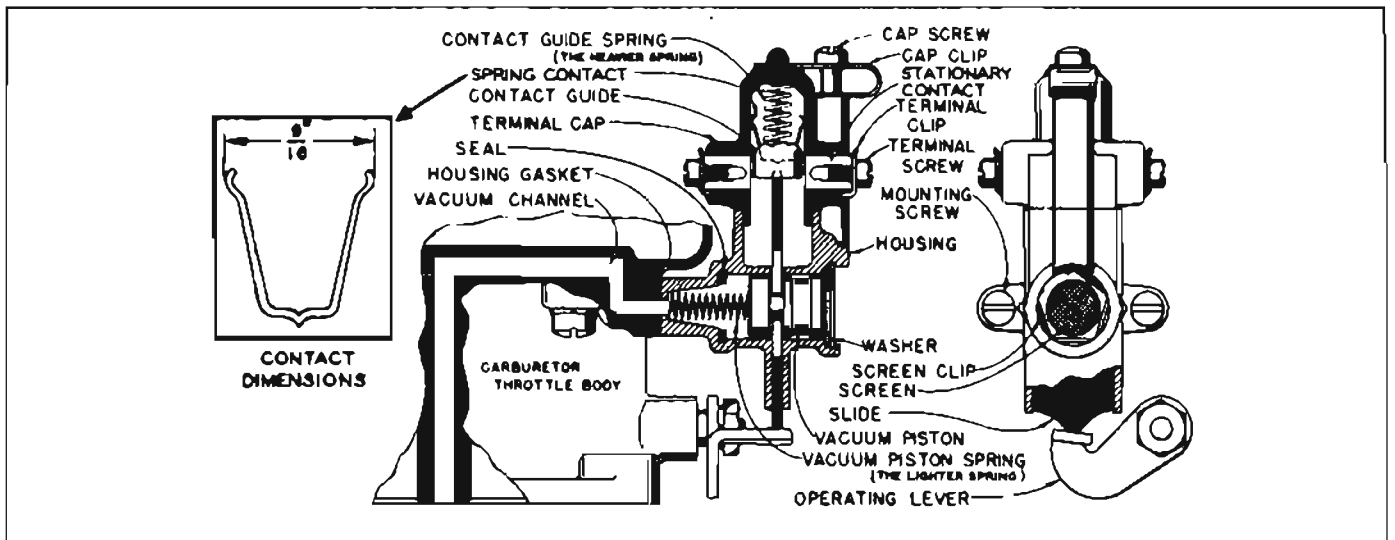

Figure 10-34—Stromberg Accelerator Vacuum Switch—Engine Not Running
vent leaks when a piston opposed by a light spring is drawn against it by vacuum. The opposite end of the barrel is vented to outside air through a fine mesh screen which is held in place by a screen clip. A flat slide, actuated by an operating lever on the throttle shaft, moves in a confined slot in the housing and in a plane perpendicular to the axis of the cylinder barrel. This slide engages a cylindrical bakelite contact guide, the upward movement of which is opposed by a heavy contact guide spring. The contact guide carries a thin U-shaped spring contact which moves up and down within a bakelite terminal cap to engage stationary contacts for opening and closing the cranking motor control circuit. The terminal cap is held in place by a cap screw and cap clip. See figure 10-34.
Figure 10-34 shows the accelerator vacuum switch with engine not running. The throttle is closed and the switch operating lever holds the slide in the upper position, thereby holding the U-shaped spring contact away from the stationary contacts, in the terminal cap.
The switch may be readily disassembled by referring to figure 10-34. Wash all metal parts in Bendix Metalclene, or equivalent, and wipe
1. Make certain that the contact guide spring and the vacuum piston spring are installed in their proper positions. The contact guide spring may be identified as the heavier of the two springs. See figure 10-34.
3. Use care in handling the U-shaped contact spring to avoid altering the dimension of the open end. The open end measures $\frac{1}{16}$ " from outside to outside of the curved ends of spring. See figure 10-34.